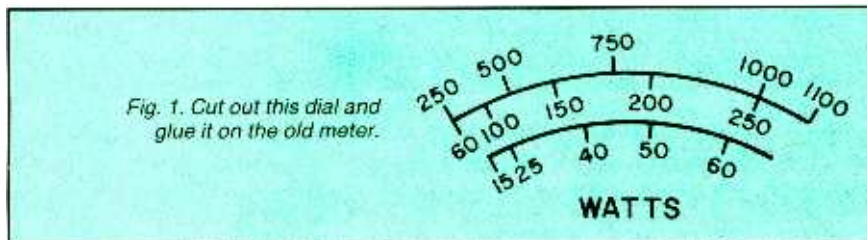

Fig. 1. Cut out this dial and glue it on the old meter.
The next step is to pry off the front cover of the panel meter and replace the dial. Remove the two Phillips screws and dial, being careful not to damage the pointer. Cut the new dial from Fig. 1 and glue it over the old dial. Then reassemble the panel meter. Wire the resistors and zener diodes as shown in Fig. 2.
Basic Power. The circuit shown in Fig. 1 was used to charge a nominal 9.6-volt battery to power a radio-controlled (RC) transmitter. The "rule-of-thumb" is that the number of solar cells to use is equal to the required battery voltage divided by 0.4. (The typical voltage that most solar cells generate in sunlight is 0.45 V, with 0.4 chosen here to provide a design cushion.) The current requirement of the cells should be sufficient to charge the battery. Thus, in this application, 24 cells were used (9.6/0.4).